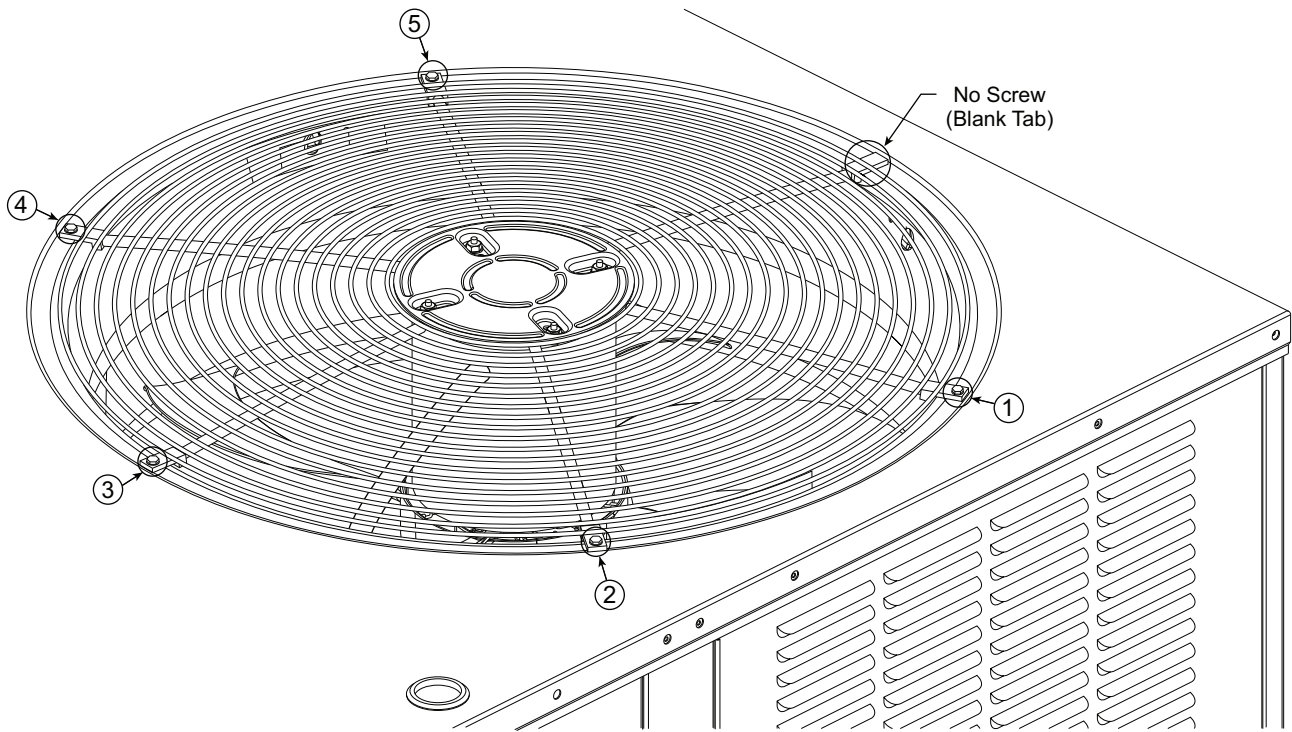

Fig. 28 — Condenser-Fan Assembly — Screw Pattern Sequence
6. Replace condenser-fan assembly. When replacing the condenser-fan assembly follow the screw pattern sequence shown in Fig. 28. The screws must be replaced in the sequence shown in the figure.